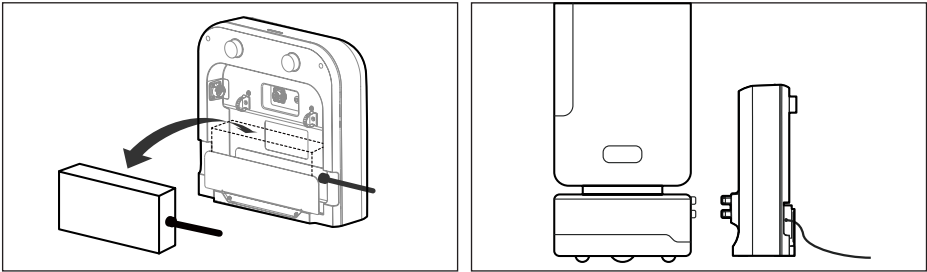

Figure 3
2. After connecting the power adapter interface to the charging station, you can insert the adapter into the designated slot (refer to Figure 3).
4. After connecting the power adapter to the charging station, ensure that the charging station is placed securely. Once the robot is docked with the charging station, it can begin charging (refer to Figure 3).